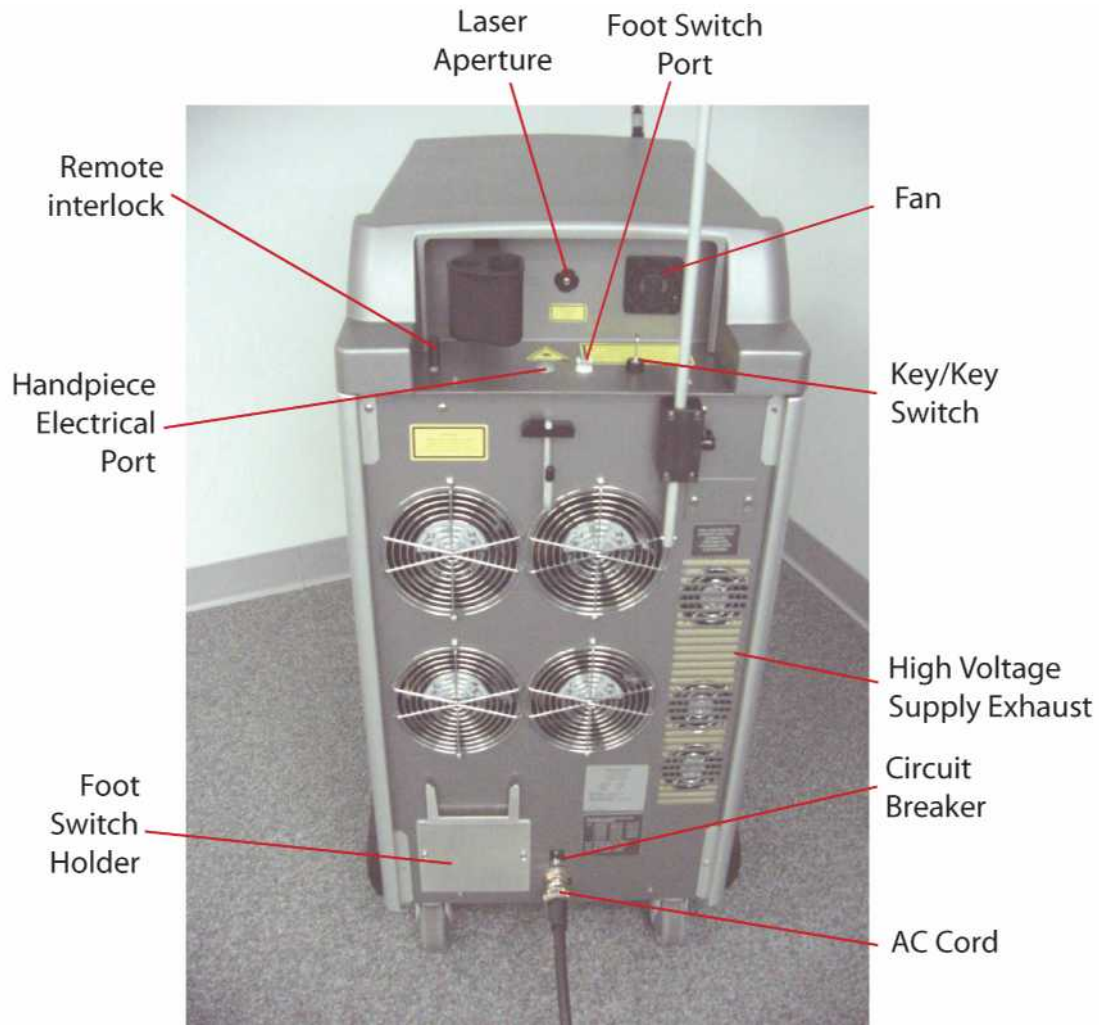

Figure 2C–Main Components, Rear View
Refer to **Figures 2C and 3** for an illustration of the fiber assembly and handpiece.
1. Screw the fiber connector into the laser aperture on the rear of the laser. See **Figure 2C** for laser aperture location. Firmly tighten by hand.
2. Firmly seat the electrical connector into the handpiece electrical port on the rear of the laser. See **Figure 2C** for the location of handpiece electrical port.
- ◆ The Foot Switch, a pneumatic switch that reduces the chance of electrical hazard in a wet environment. To connect the foot switch, insert the foot switch into the footswitch port on the rear of the laser. See **Figure 2C**.